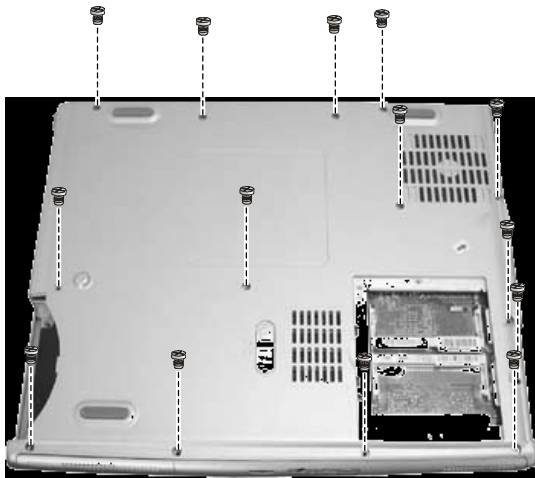

Figure 2-20 Remove the bottom
2. Remove fourteen screws on the bottom of the notebook. (Figure 2-20)